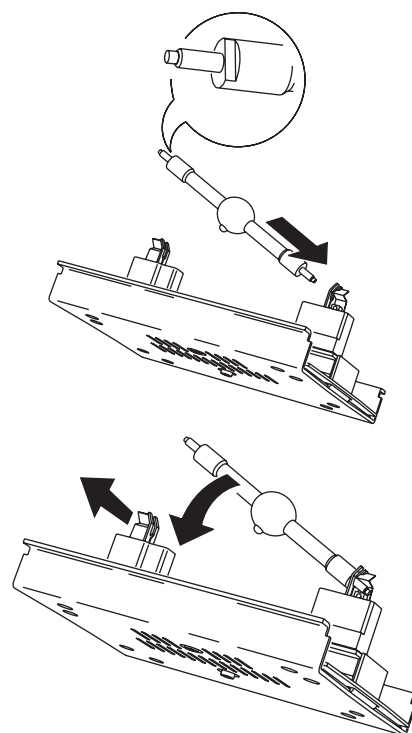

Figure 8: Lamp insertion
The ends of the lamp are profiled with special keys, as shown in Figure 8, to ensure proper installation. Do not use lamps with keys in a non-keyed SFC 10-4 socket.
- 5 See Figure 8. With the nipple on the bulb facing the back, insert the right end of the new lamp in the socket. Pull up on the left spring and snap the other end into place.